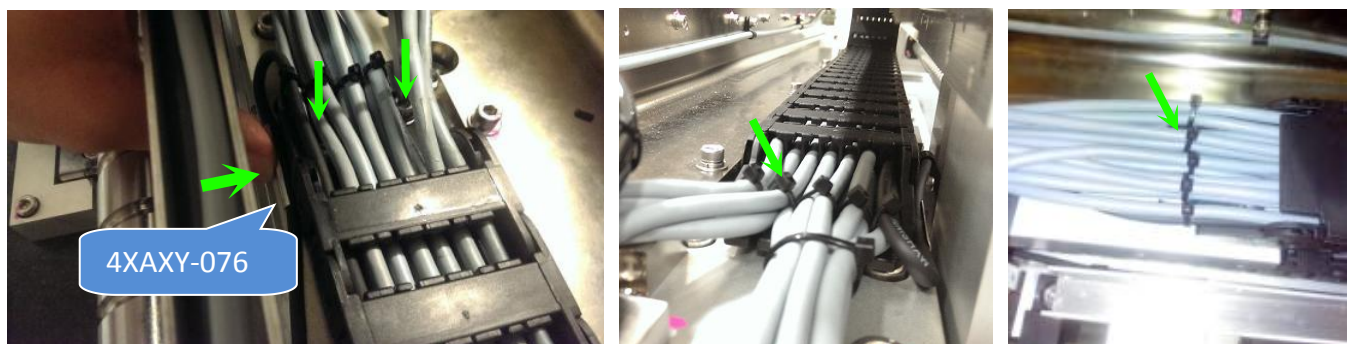

Figure 40 Stepper Motor Cable Routing (X Axis E-Chain)
42. Gently push BRACKET, ENCODER CABLE (P/N, 4XAXY-076) towards rear side .Tighten 2x screws, & reassemble E-Chain cover. Secure Cable with cable tie as below Figure 40